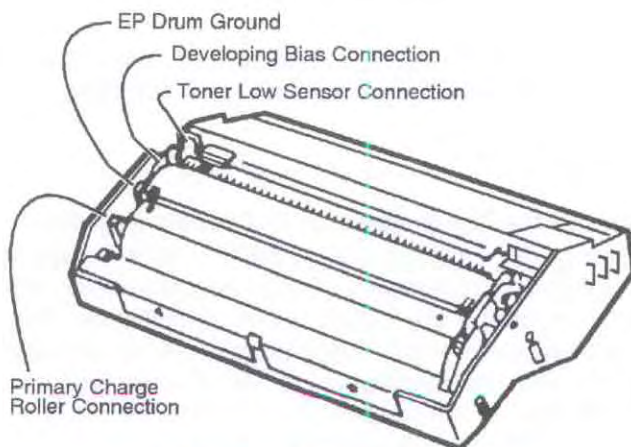
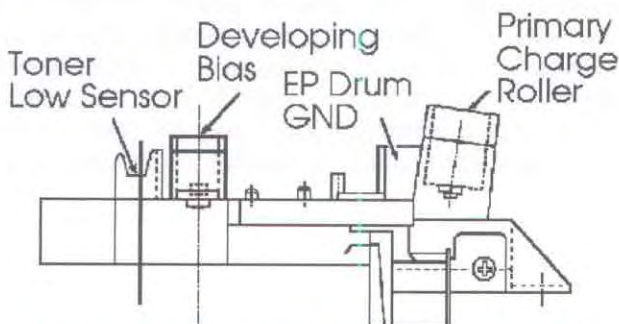

Figure 7-5. Toner Cartridge Connections
Figure 7-6. Corresponding Print Engine Connections
4. Is the toner level sensor connector damaged?	Inspect connector for damage (see Figure 7-5 callout 1 and Figure 7-6).